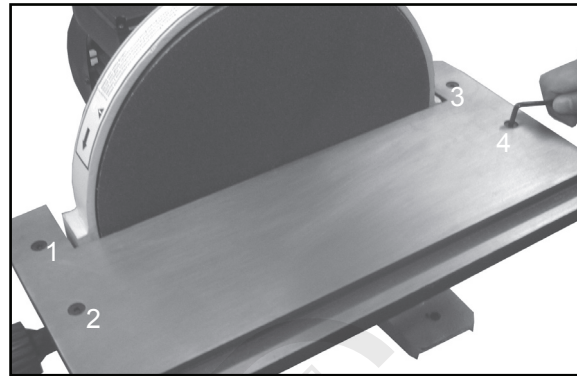

Fig. 04
3. Always maintain a gap of approximately 1/16" between the table edge, and disc. If adjustment is necessary loosen the four bolts (Fig. 04) and move the table into position.